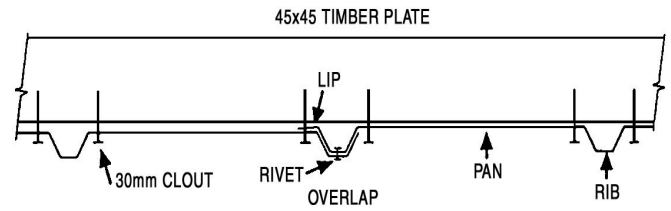

fig. 12
- 7.5 Now, overlap the end wall sheets together in the centre. Square the wall of the shed by pushing sideways as necessary until the cladding sheets are flush with the top plate and line up together, then rivet them together top and bottom through the rib (**figs.12 & 15**)
- 7.9 While holding the Front Wall Sheets hard up under the Top Plate Flashing, nail to the top and bottom plates using 30mm clouts. Use 1 clout either side of each rib as per (**fig.12**)
- 7.10 Now work your way around the shed and complete nailing your cladding on. Start with the middle of the wall and work out, putting one 30mm clout either side of the rib, into the top and bottom plates. (**fig.12**)